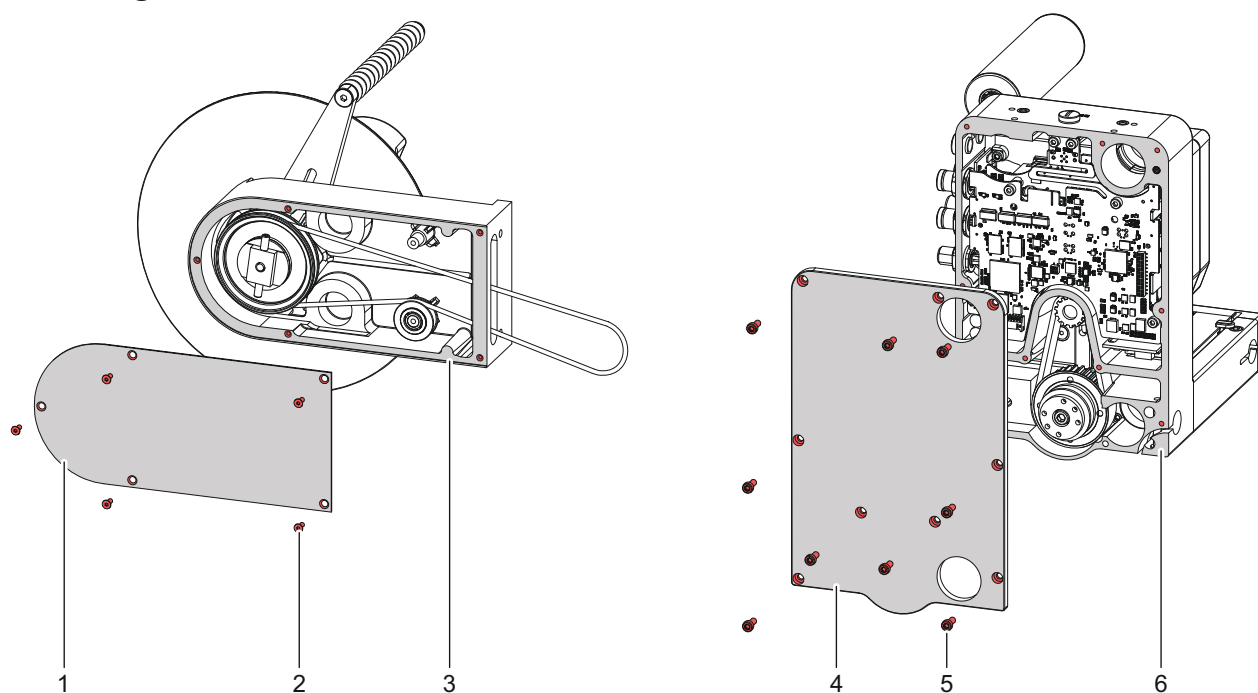

Figure 37 Removing the covers
- Route the belt (2) around the belt pulley (1) and the belt gear (4). Make sure that the belt runs over the belt pulley (3).
- Re-mount the covers on the base unit and rewinder („Figure 37 Removing the covers“ auf Seite 26).